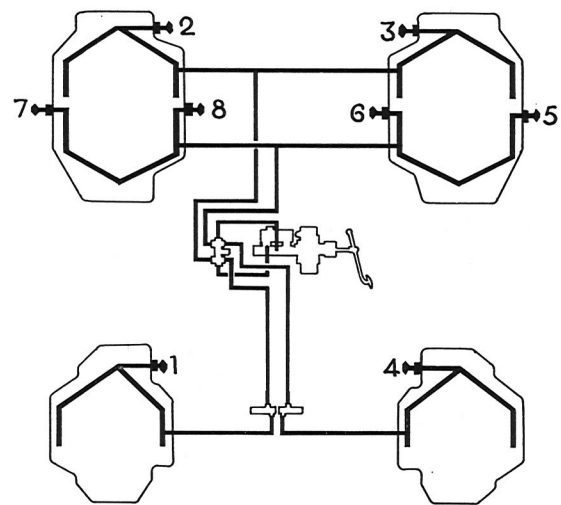

Fig. 5-57. Bleeding sequence
4. Bleeding should be made in the order shown in Fig. 5-57.
4. Bleeding should be made in the order shown in Fig. 5-57 and as follows: